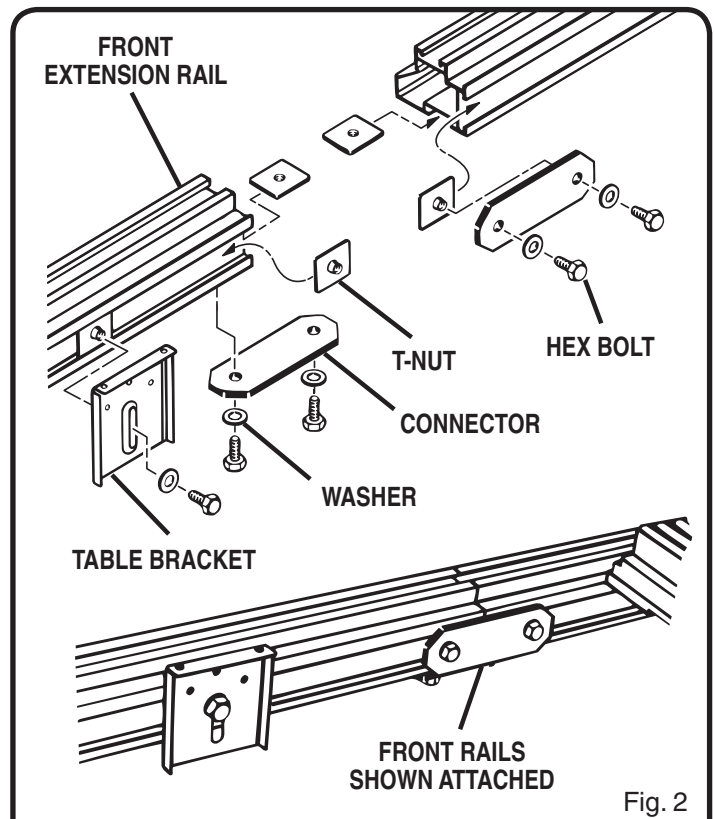

Fig. 2
See Figure 2 and 4.
- Slide two T-nuts into channel on rear portion of front extension rail. See Figures 2 and 4.